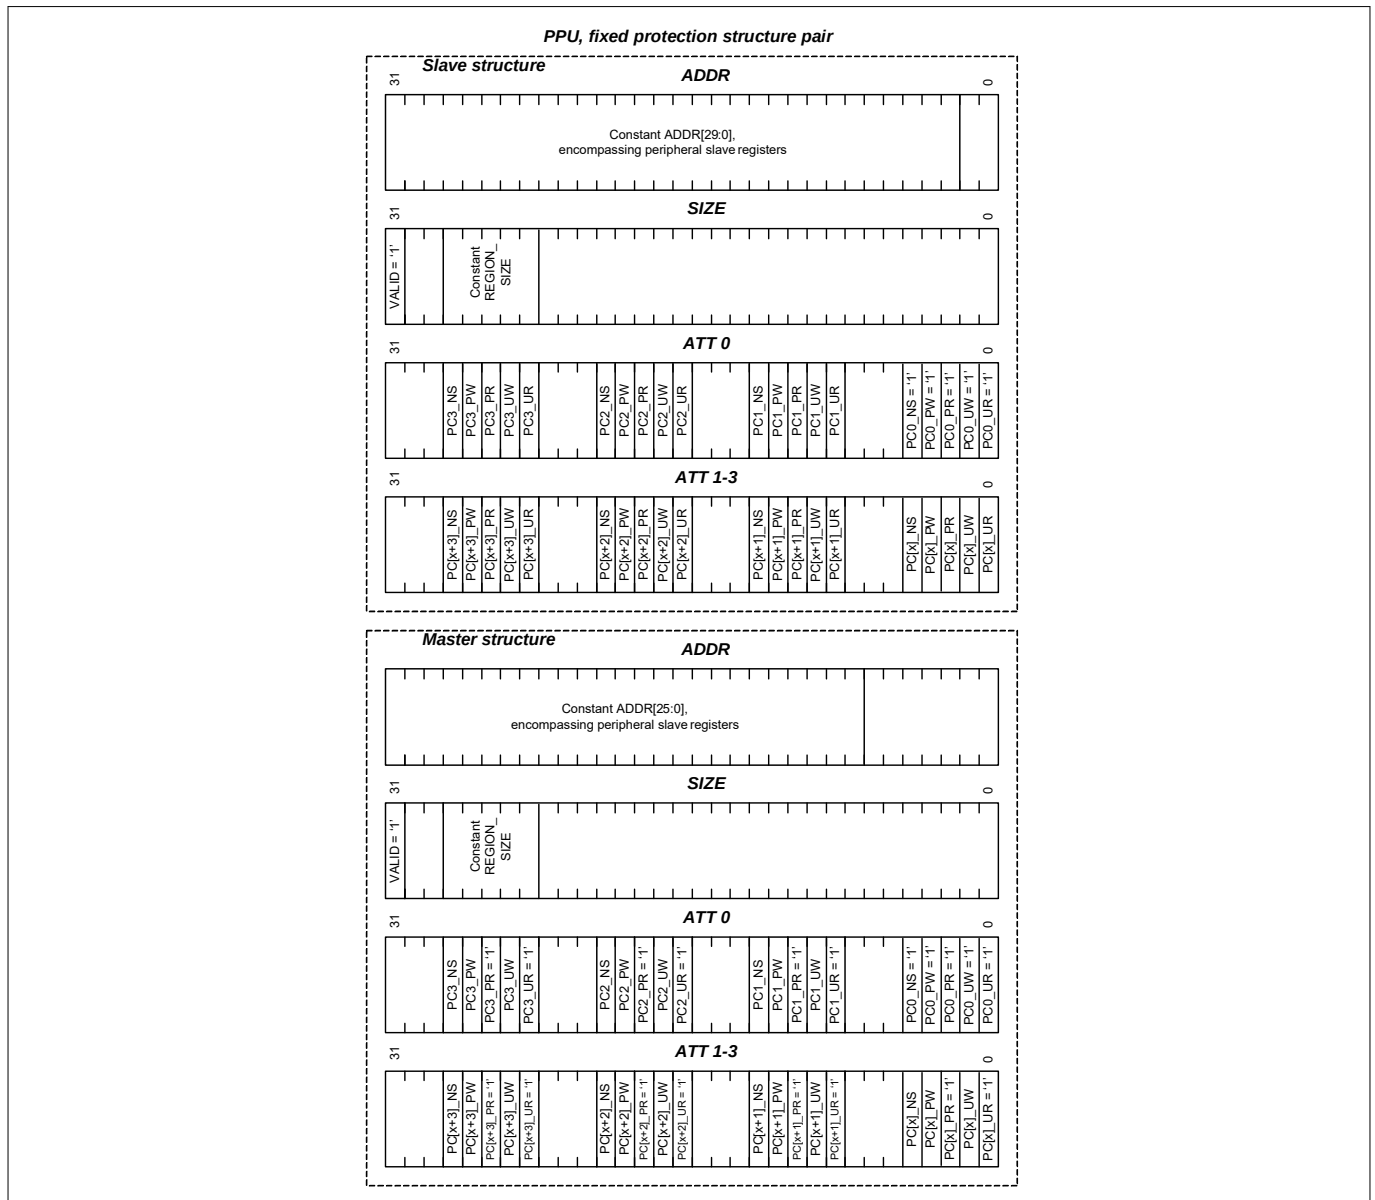

Figure 14 Fixed protection structure pair
- Fixed protection structure pairs – These structures are used by the PPU. Both structures have a fixed, constant address region and do not have the ATT.UX and ATT.PX attributes. In addition, PC0 is permitted with all access attributes (PC0 has unrestricted access). The master structure has the ATT.UR and ATT.PR attributes as constant '1' (reading is always allowed). See Figure 14